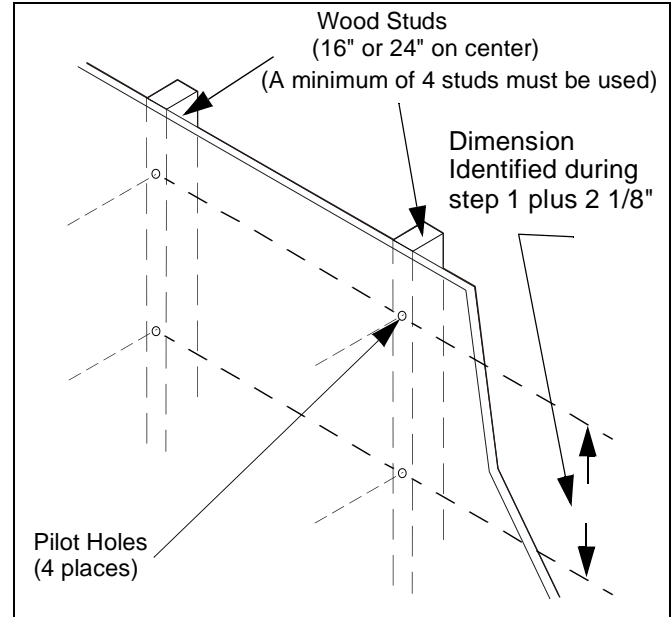

**Figure 4: Identify distance between Vertical Mounting Holes on mount**
2. Determine distance between vertical mounting holes on the mount being installed by referring to the Installation Instructions provided with the mount. (see Figure 4)